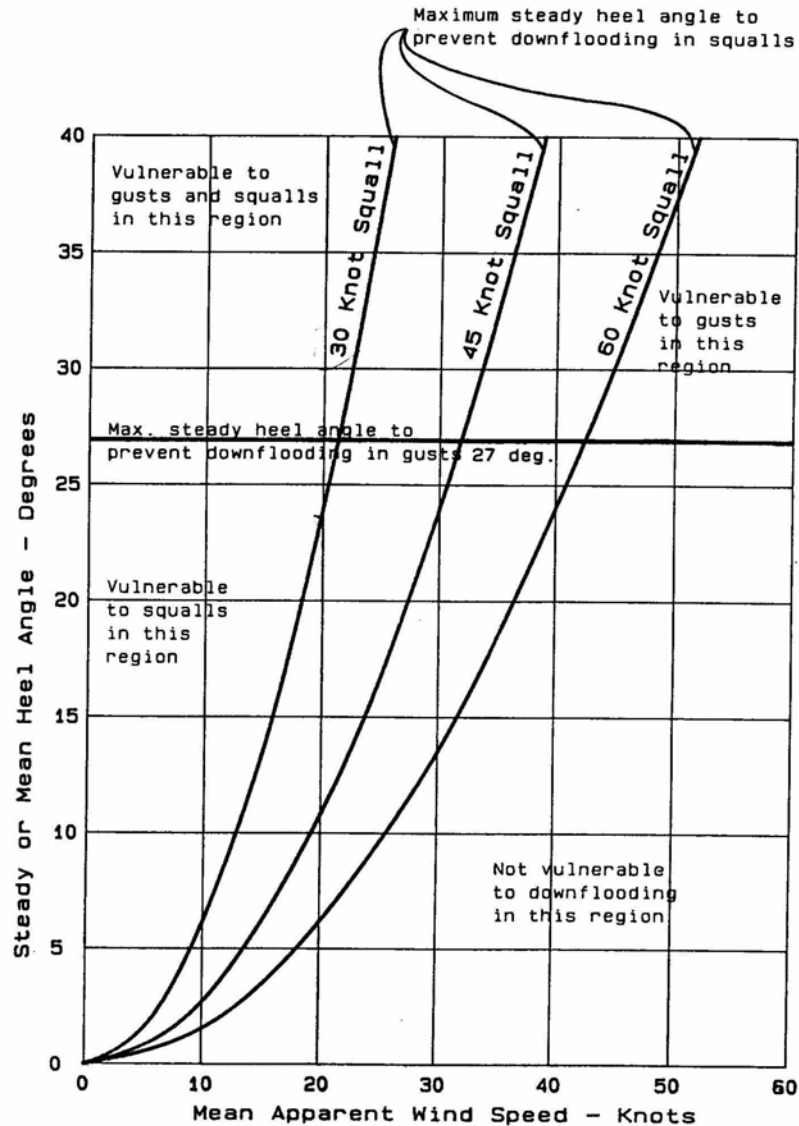

Figure 2
Figure 2: shows the maximum recommended steady heel angle to prevent down flooding in squalls. Operation of the yacht at a greater heel angle would result in down flooding if it were to encounter the heeling effects of a squall arising from a storm or frontal system which may result in a heeling moment many times greater than that of the mean wind. For this reason the Master should have regard to the maximum steady heel angle curves presented for a range of squall speeds.
*[Figure 2 is to be replaced by a curve specific to the yacht in question]*
*These values correspond to a point on the 45 knot squall curve in Figure 2, which was derived from a series of such calculations using different steady heel angles. Similarly, the curves for other squall speeds are derived using different values for  $V_1$ .*